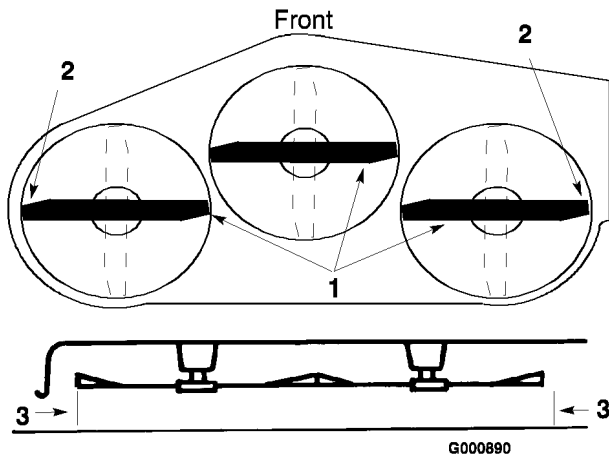

Figure 45
4. Carefully rotate the blade(s) from side to side (Figure 45). Measure between the outside cutting edges and the flat surface (Figure 45). If both measurements are not within 3/16 inch (4.75 mm), an adjustment is required; refer to steps 5 and 6.